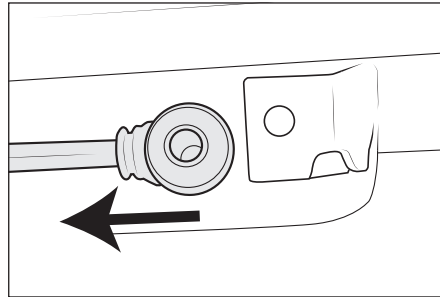
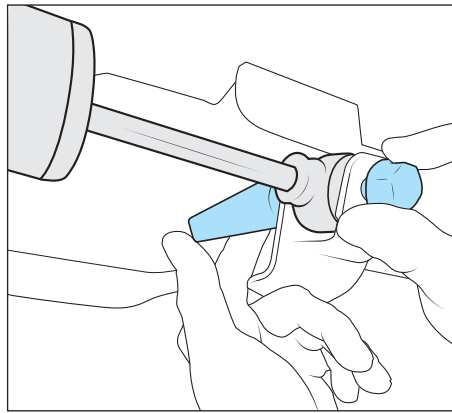

Figure 4
Figure 5
4. Compress the damper by hand until it can go past the axle bracket (fig. 4). Have the factory bolt ready to slip into place as the damper extends. The valving is very stiff, so it will take quite a bit of force to compress it. It may help to use a socket extension or long screwdriver through the bushing in order to push with both hands. Once compressed, slip it into place in the axle bracket, then as it extends back into position insert the factory bolt through the bracket and bushing. Install the flag nut on the back side (fig. 5).